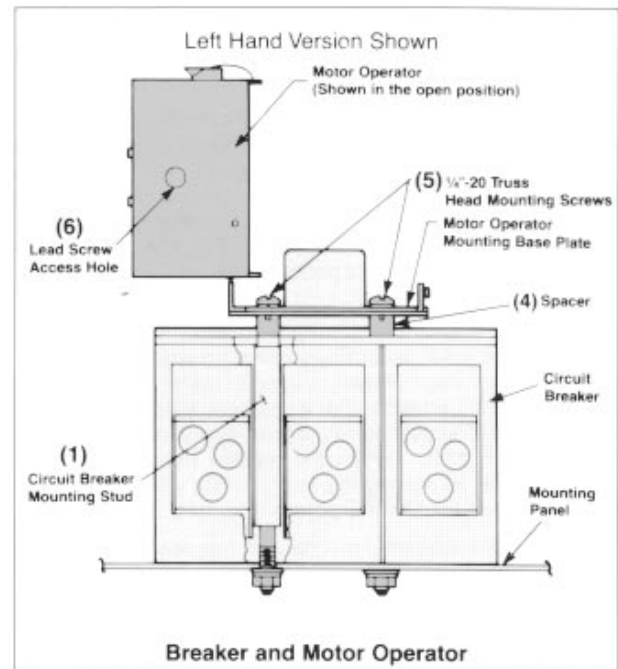

Figure 2
- Attach the circuit breaker to its mounting surface using the mounting hardware (1) supplied with the motor operator (Figure 2).
- Open the motor operator cover and attach the motor operator to the circuit breaker using the spacers (4) and screws (5) provided (Figure 2).
- F. With the circuit breaker handle in the OFF position, align the motor operator mechanism rollers (indicator to be in OFF position) and the circuit breaker handle by rotating the lead screw (6) with a screwdriver. The lead screw access hole is at the bottom of the motor operator (Figure 2).